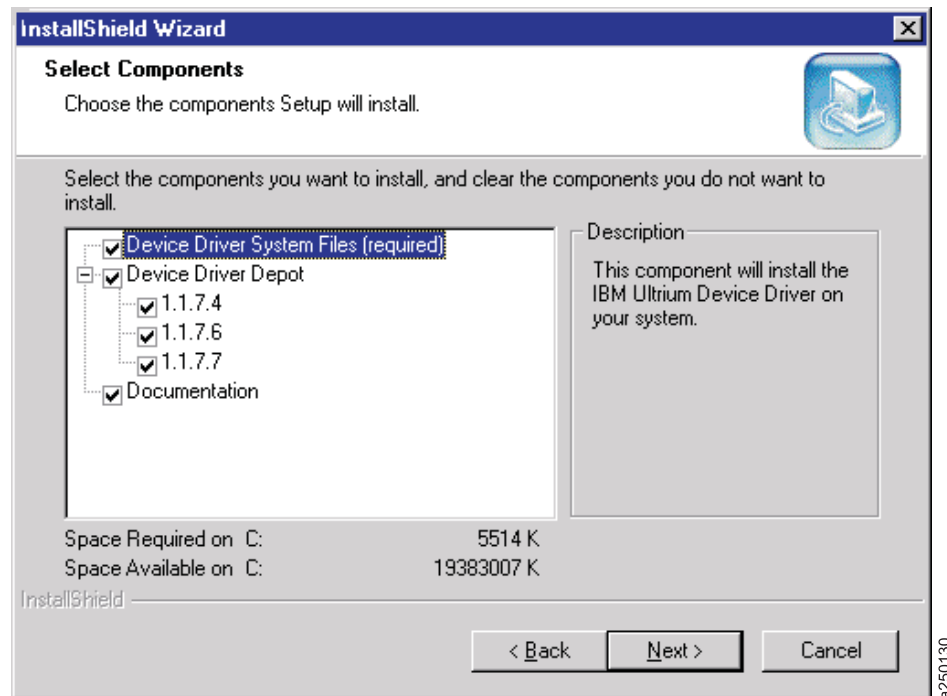

Figure 10. Select Components Menu
- c. If you select **custom** installation, the program will allow you to select the components to install (see Figure 10).